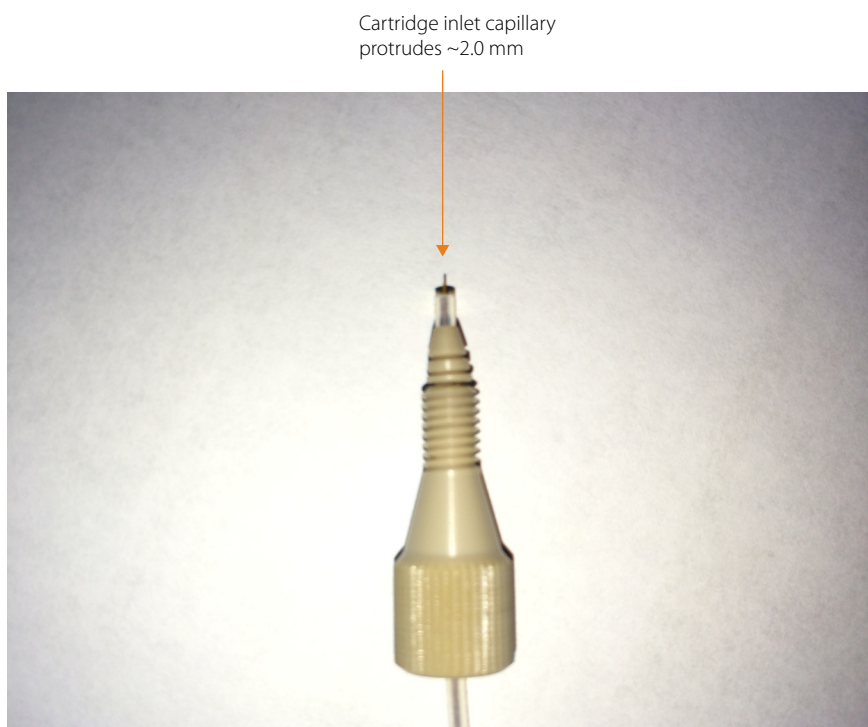

Figure 5-14: Cartridge inlet capillary approximately 2.0 mm past the cartridge inlet sleeve.
23. Gently push the cartridge inlet capillary through the tubing until the end of the capillary protrudes approximately 2.0 mm past the cartridge inlet sleeve (Figure 5-14).